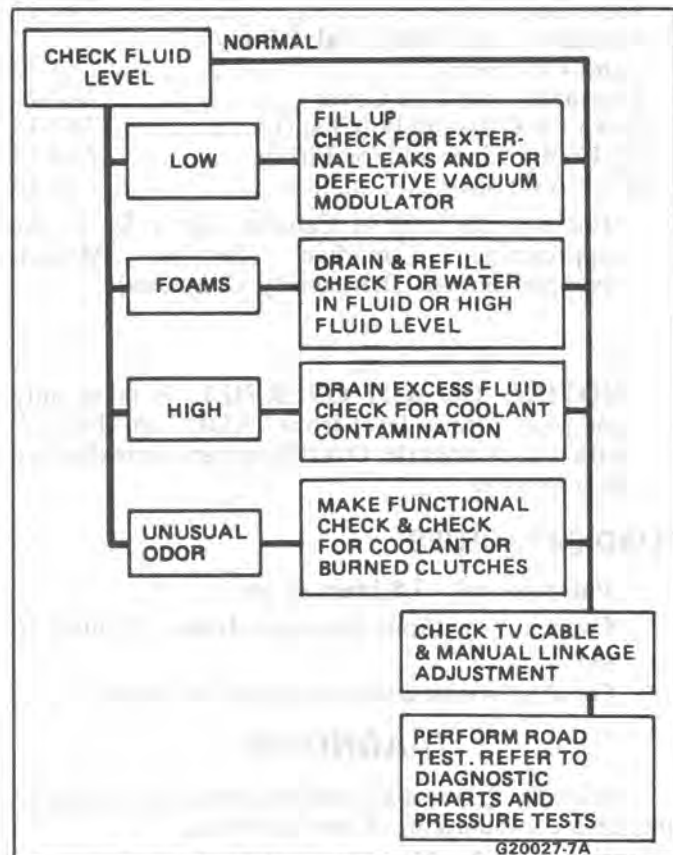

Fig. 1 Preliminary Checking Procedure
2. Fluid level. Refer to "Fluid Level Checking Procedure", Fig. 1.